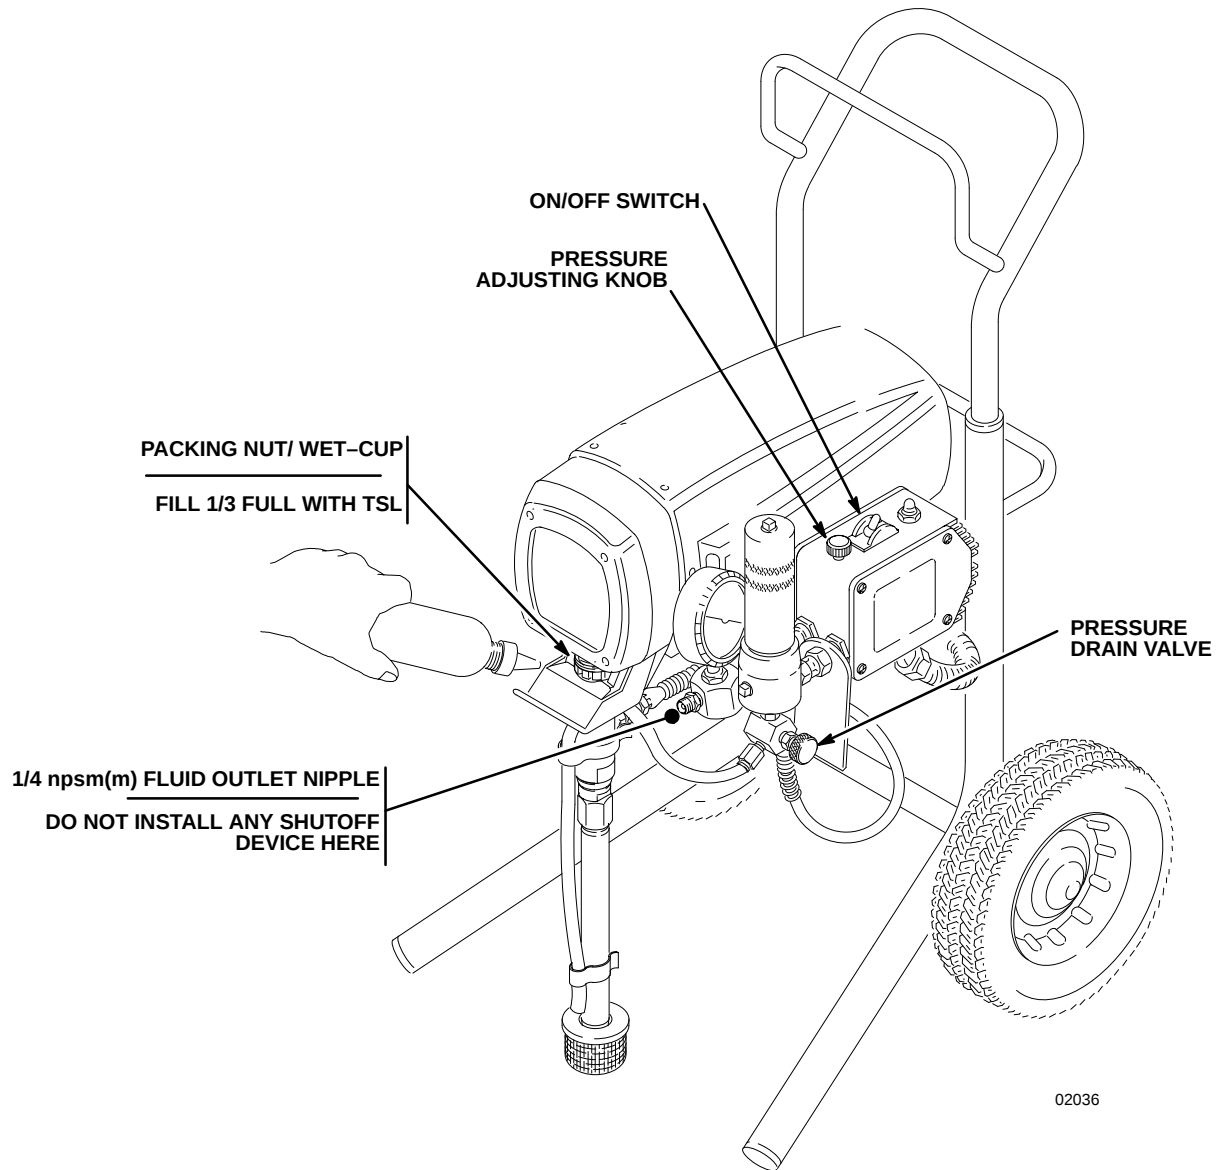

Fig 2
3. Never install any shutoff device between the filter and the main hose. See Fig 2.
NOTE: See Fig 2 while doing the setup.